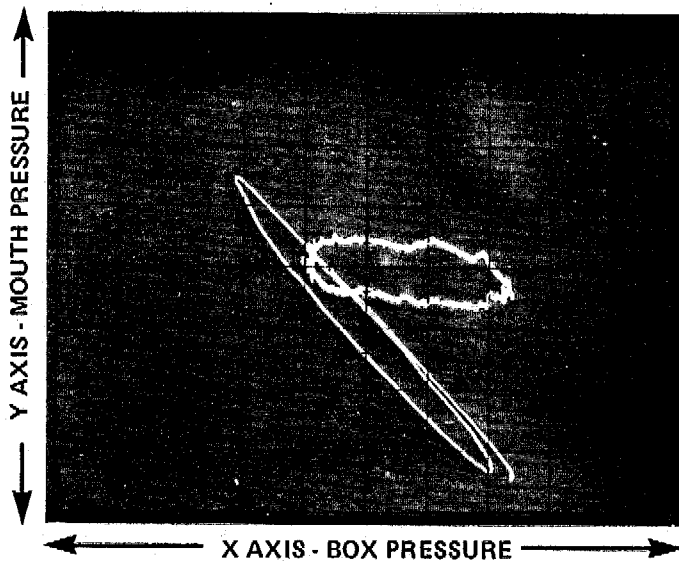
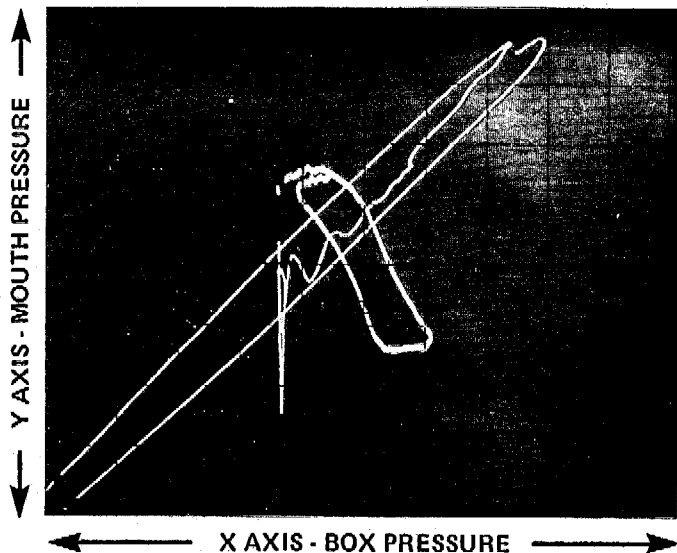

Figure 29 - Trace -  $V_{TG}$  Curve
Figure 32 - Trace -  $R_{aw}$  Mouth Pressure Curve
MOUTH + nipple on the Electronics Console Transducer Panel is connected to the MOUTH - nipple on the Body Box which is the normal connection when airway resistance is measured (section VI.C.). In this case, however, the trace will appear as in Figure 32, not Figure 29. This is useful to avoid changing tubing connections when VTG and  $R_{aw}$  is measured on the same subject.
B.13. Hold the switch in the BP/MP position while the patient attempts to pant *once* against the closed shutter, then allow it to return to the center position. The second stored trace is shown in Figure 29.
C.15. Hold the switch in the BP/MP position while the patient attempts to pant once against the closed shutter, then allow it to return to the center position. The second stored trace is shown in Figure 32.